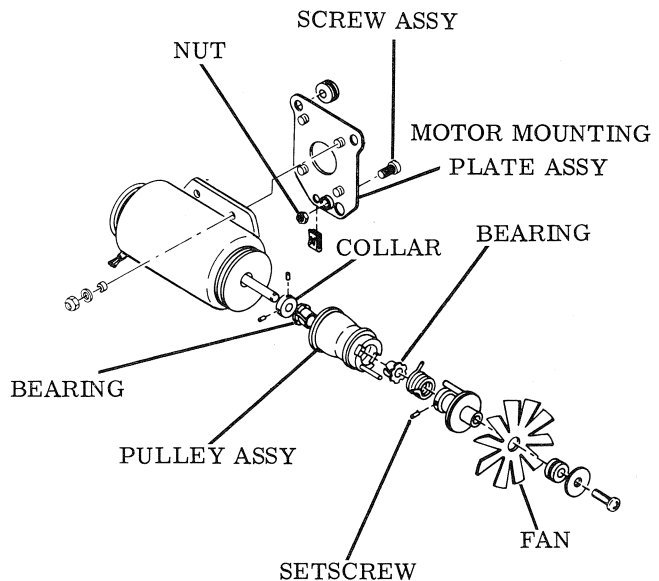

Figure 3-21. DRIVE UNIT ASSEMBLY
8. Drive Unit Assembly (Figure 3-21)